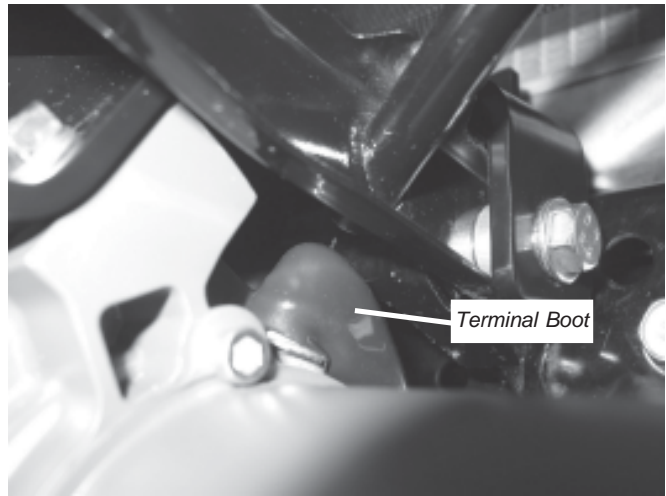
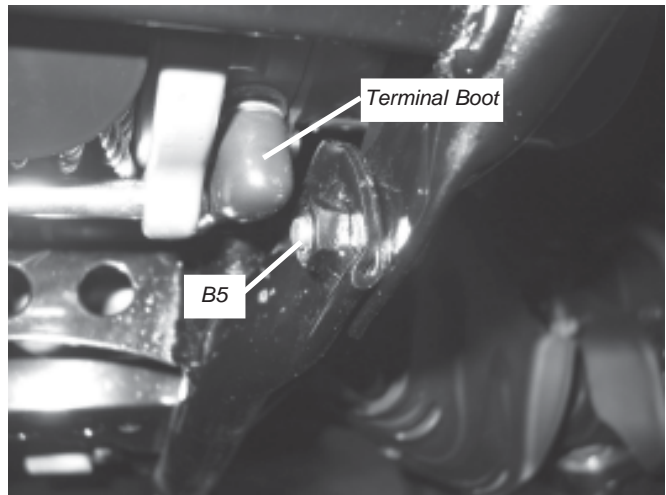

Figure 16 Upper Motor Terminal Clearance
Figure 17 Lower Motor Terminal Clearance
17. Position the winch on the brackets to maximize the clearance between the motor terminals and the adjacent bumper or frame members, figure 16 and figure 17.